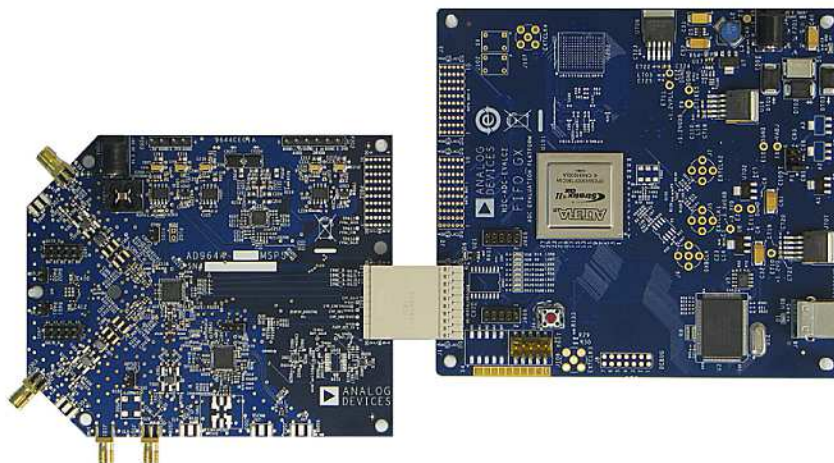
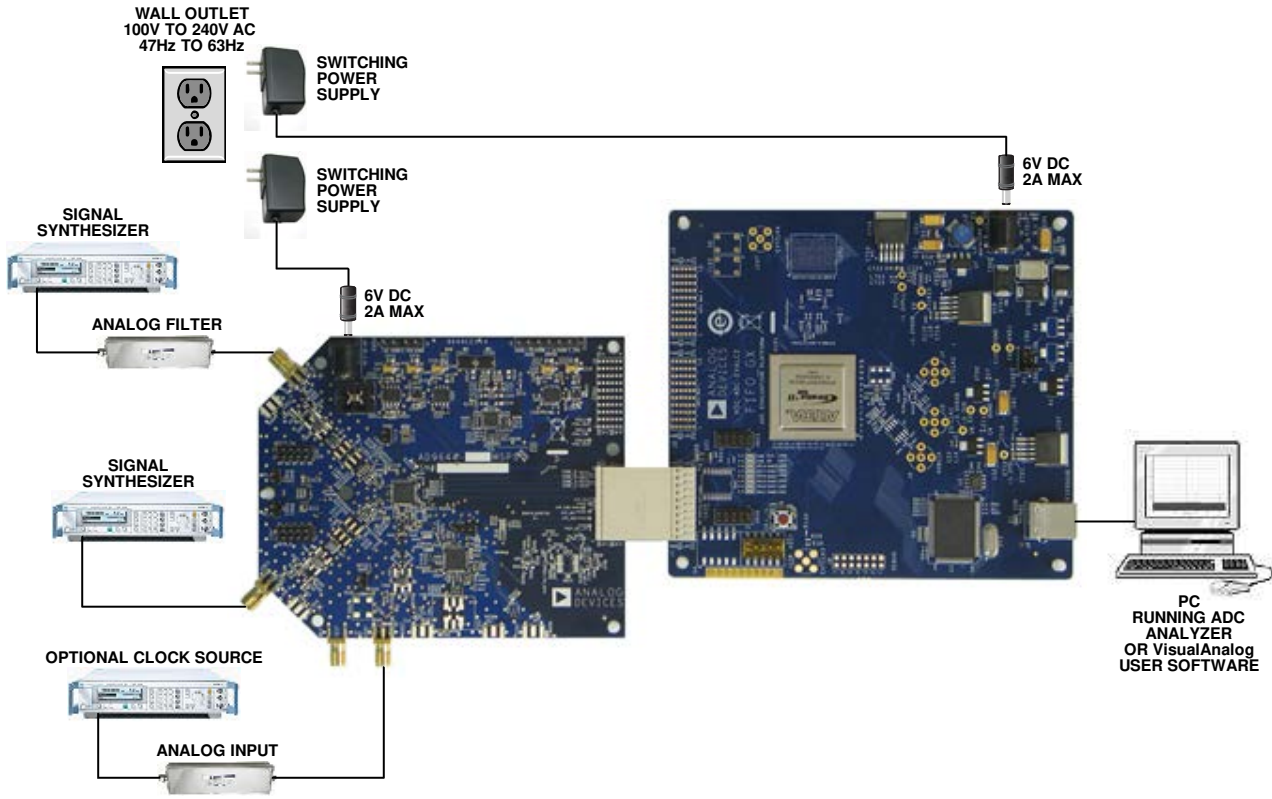

Figure 1. **AD9644/AD9641** Evaluation Board and FIFO-GX Data Capture Board
Figure 2. AD9644/AD9641 Evaluation Board Connection
The AD9644 and AD9641 evaluation boards provide all of the support circuitry required to operate the parts in various modes and configurations. Figure 2 shows the typical bench characterization setup used to evaluate the ac performance of the AD9644 or AD9641. It is critical that the signal sources used for the analog input and clock have very low phase noise (<1 ps rms jitter) to realize the optimum performance of the signal chain. Proper filtering of the analog input signal to remove harmonics and lower the integrated or broadband noise at the input is necessary to achieve the specified noise performance. The AD9644 evaluation board supports dual-channel operation for the AD9644. The AD9641 evaluation board supports single-channel operation for the AD9641.
1. Connect the AD9644 or AD9641 evaluation board to the FIFO-GX data capture board, as shown in Figure 1 and Figure 2.